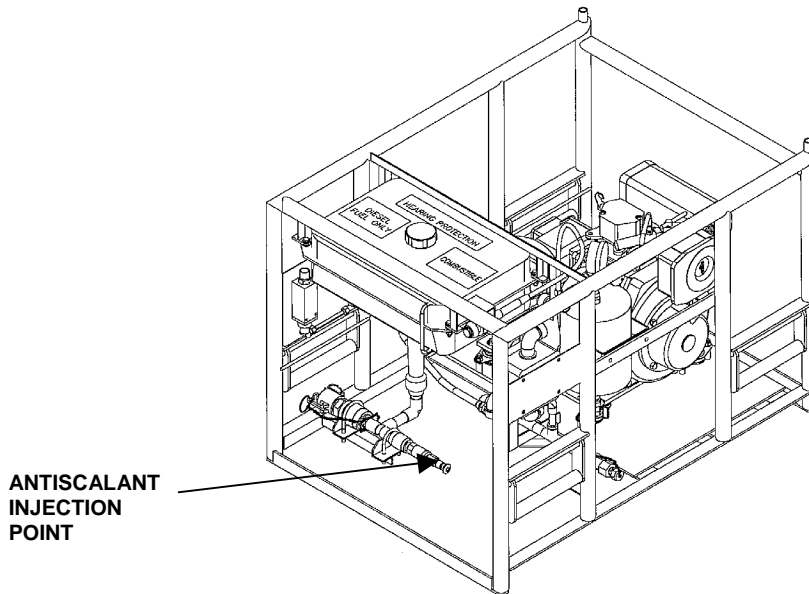

Figure 6. Antiscalant Chemical Injection Point on High-Pressure Pump Module.
7. Connect chemical injection tubing from the chemical module antiscalant outlet to the antiscalant injection point on the high-pressure pump module. See Figure 5 and Figure 6.